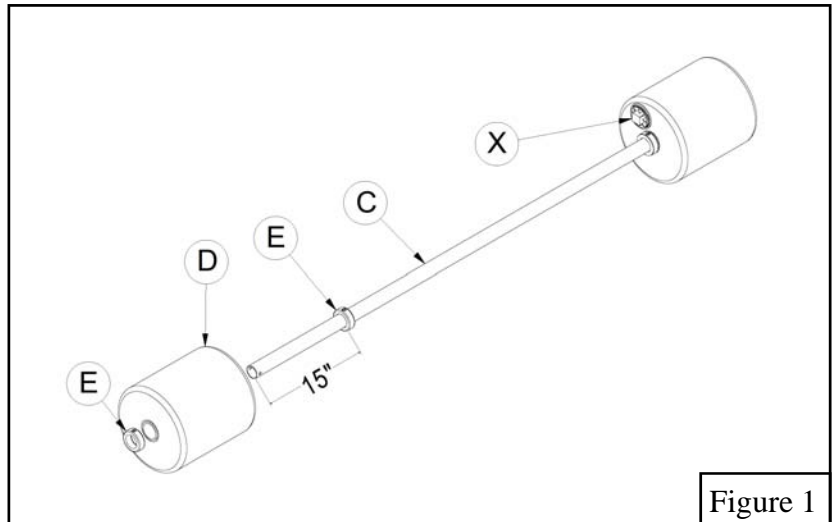

Figure 1
1. Fill each *Ballast Drum* (D) completely with sand, making sure the sand is compacted. They should hold approximately 60-75 lbs. of sand each. Once full, install the *Ballast Plug* (X) and tighten securely to ensure there is no sand escaping. See Figure 1.
2. Place two *Locking Collars* (E) onto each *Spreader Bar* (C) approximately 15" from each end. Slide a *Ballast Drum* (D) onto each end of the *Spreader Bar* (C). Install a *Locking Collar* (E) onto the end of *Spreader Bar* (C). Position *Locking Collars* (E) within 1/8" of *Ballast Drum* (D), tighten the set screws on all *Locking Collars* (E). See Figure 1.